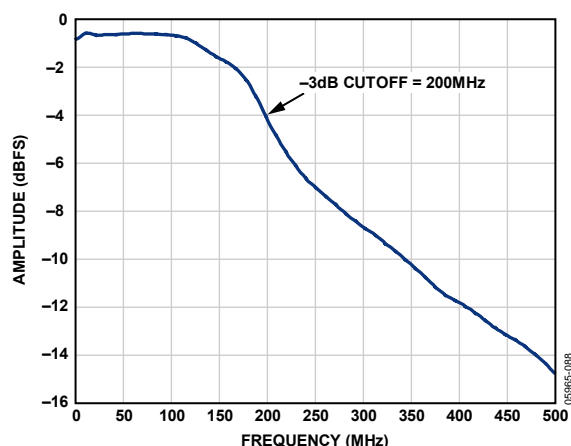

Figure 62. Evaluation Board Full Power Bandwidth
- **AIN:** The evaluation board is set up for a transformer-coupled analog input with optimum 50 Ω impedance matching out to 200 MHz (see Figure 62). For more bandwidth response, the differential capacitor across the analog inputs can be changed or removed. The common mode of the analog inputs is developed from the center tap of the transformer or AVDD_DUT/2.